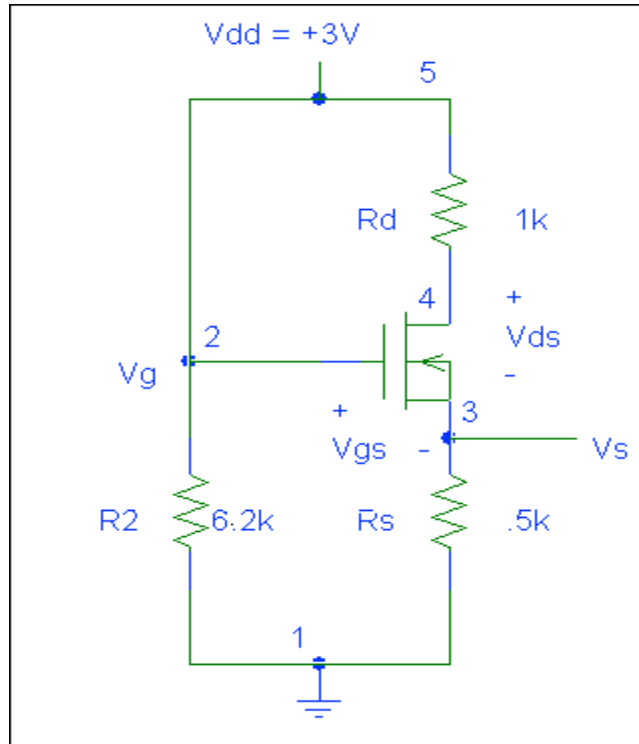

Figure 1: NMOS Circuit
- ☐ Build the circuit shown above in Figure 1 using a transistor provided by your teaching assistant and available resistors
- ☐ Perform a SPICE and or Multisim simulation of the circuit shown in Figure 1